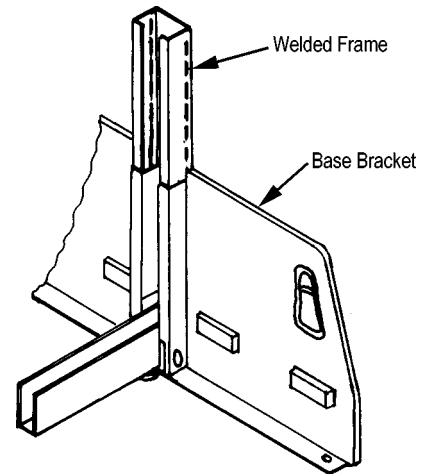

FIGURE 4
3. Stand frame upright and snap a base bracket assembly into place on the inside of frame uprights and as low as possible. (Frame should stand upright alone at this point). See Figure 4.